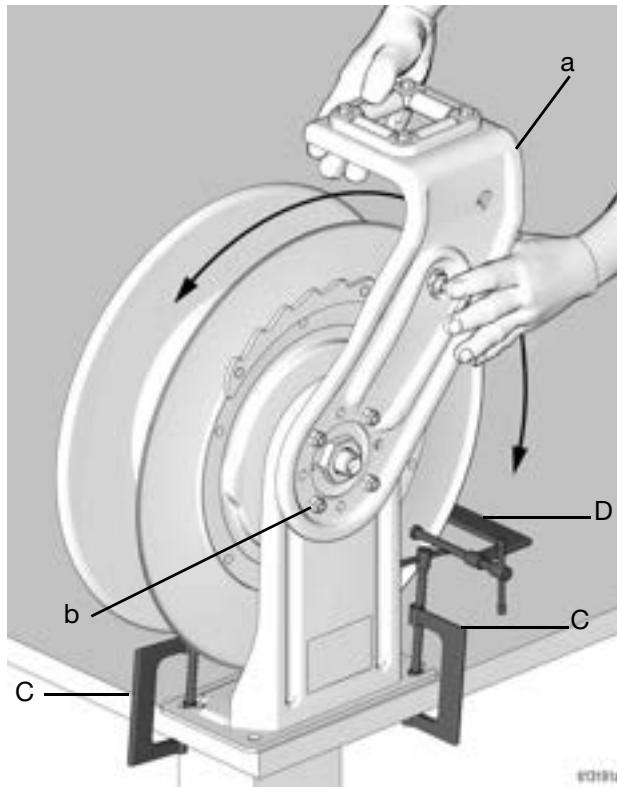

FIG. 9
- a. Secure the reel to a solid surface with C-clamps (C) (FIG. 9).
- b. Attach a C-clamp (D) to the reel flange to prevent the reel from unintentionally becoming unlatched and spinning freely (FIG. 9).